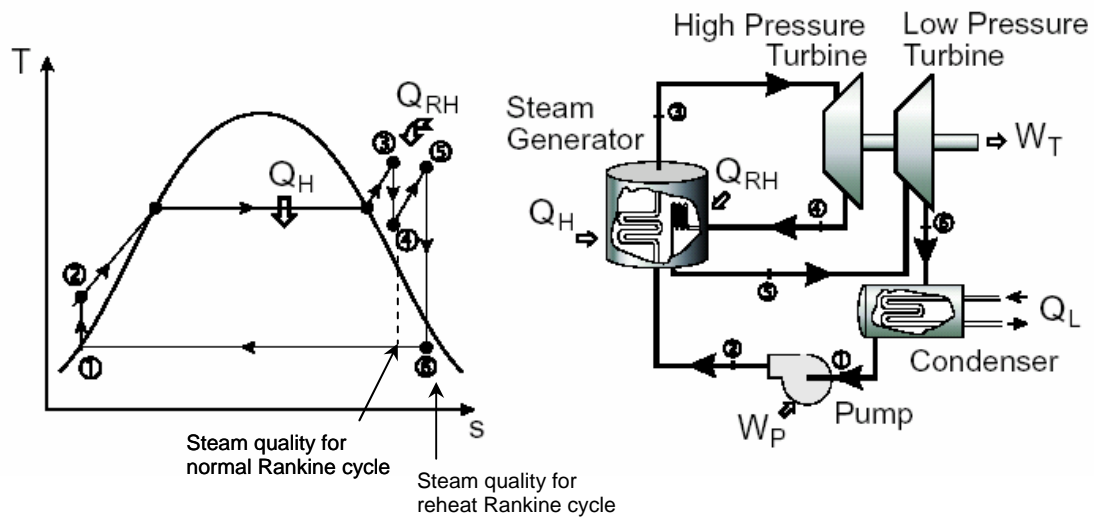

Figure.1. Ideal reheat Rankine cycle
**The solution is to expand the steam in the turbine in two stages, and reheat in between, usually within the boiler. This is a very practical solution, and it is commonly used in modern steam power plants → ideal reheat Rankine cycle (Fig.1).**